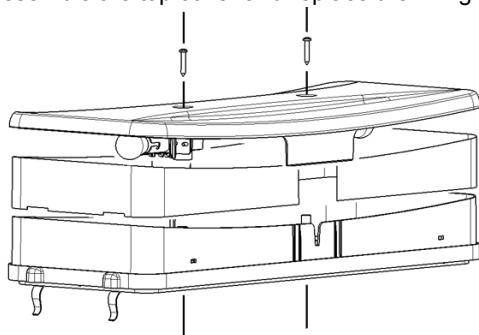

figure 10
- 1 Replacement of lighted top cover bulbs (see figure 10) :